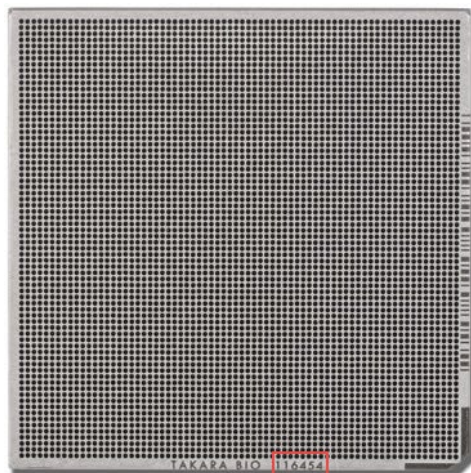

Figure 32. Single-Cell 350v chip. The chip ID is located next to the Takara Bio branding, on the bottom when the chamfered edge is on the lower right.
2. After processing is complete, the software will provide a prompt for saving results. Click [Yes] and input a file name prefixed with the chip number, `<chipID>_<Date>.wcd`, where `<chipID>` is the chip number identifying the chip (found on the edge, Figure 32) and `<date>` is the date the image was processed.